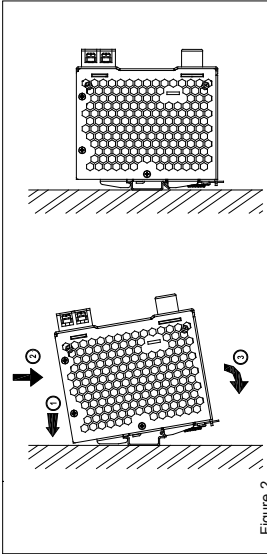

Figure 2
3. **Montage (Abb. 2)**
3. **Mounting (Fig. 2)**